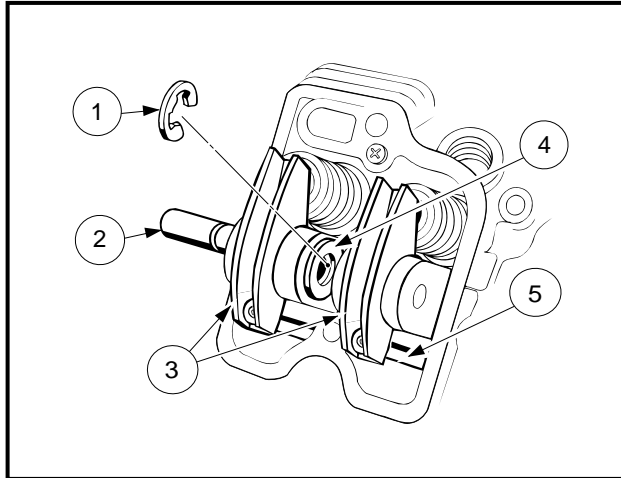

Figure 13-36 Cylinder Head Assembly
2. Making sure that each push rod (5) is in place between the rocker arm (3) and the hydraulic lifter as shown, put the rocker shaft (2) into the posts through the rocker arm (3) and washer (4) (**Figure 13-36, Page 13-20**).
3. Slide the washer (4) against the exhaust rocker, and fit the E-ring (1) into the groove in the rocker shaft (2) (**Figure 13-36, Page 13-20**).